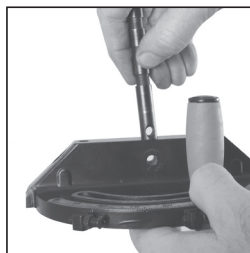

FIG. 7
- Ensure that the hole in the Pillar lines up with the hole in the vertical face of the Mitre Gauge. **(Fig. 7)**